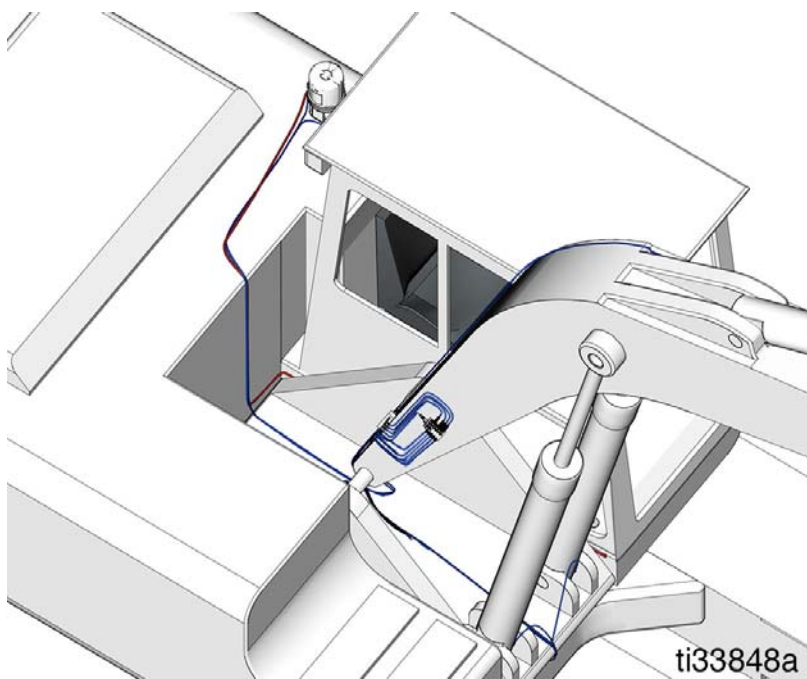

FIG. 18
- See FIG. 18 through FIG. 25 for hose routing examples.